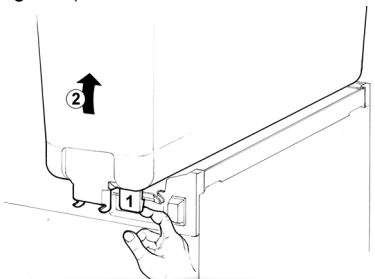

figure 1
- 2 Remove the empty bowl by lifting first its **front side (faucet side)** up and off bowl gasket (see figure 1).